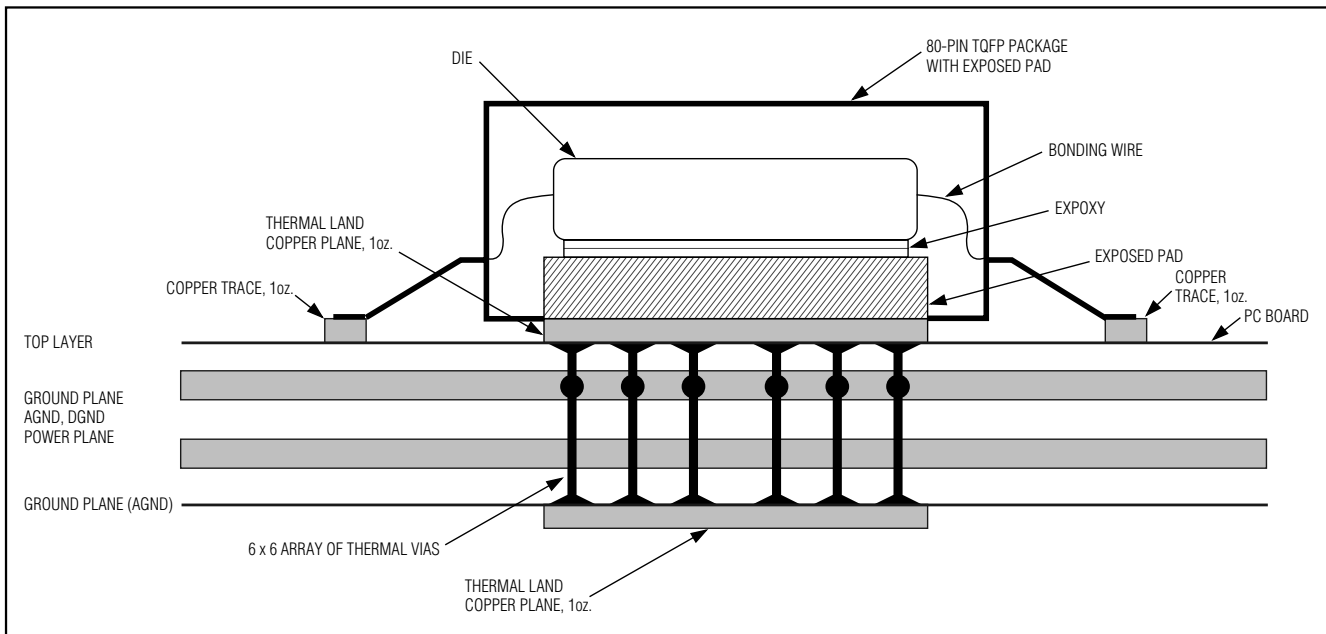

Figure 10. MAX107 Exposed Pad Package Cross-Section
tion-case ( $\theta_{jc}$ ) resistance of  $\approx 1.26^\circ\text{C/W}$ . In this package, the data converter die is attached to an exposed pad (EP) leadframe using a thermally conductive epoxy. The package is molded in a way, that this leadframe is exposed at the surface, facing the printed circuit board (PC board) side of the package (Figure 10). This allows the package to be attached to the PC board with standard infrared (IR) flow soldering techniques. A specially created land pattern on the PC board, matching the size of the EP (7.5mm x 7.5mm) does not only guarantee proper attachment of the chip, but can also be used for heat-sinking purposes. Designing thermal vias\* into the land area and implementing large ground planes in the PC board design, further enhance the thermal conductivity between board and package. To remove heat from an 80-pin TQFP package efficiently, an array of 6 x 6 vias ( $\leq 0.3\text{mm}$  diameter per via hole and 1.2mm pitch between via holes) is required.